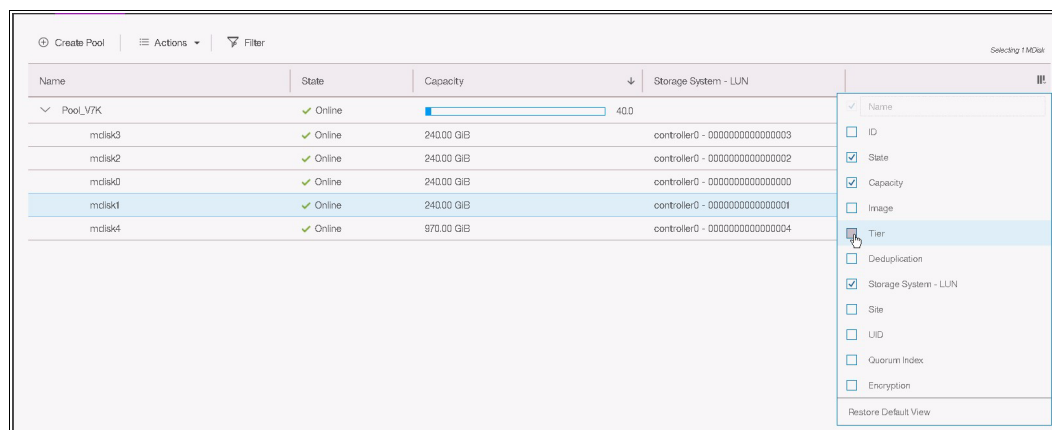

Figure 4-29 Customizing the title row to show the tier column
- If you do not see the Tier column, right-click the blue title row and select the **Tier** checkbox, as shown in Figure 4-29.